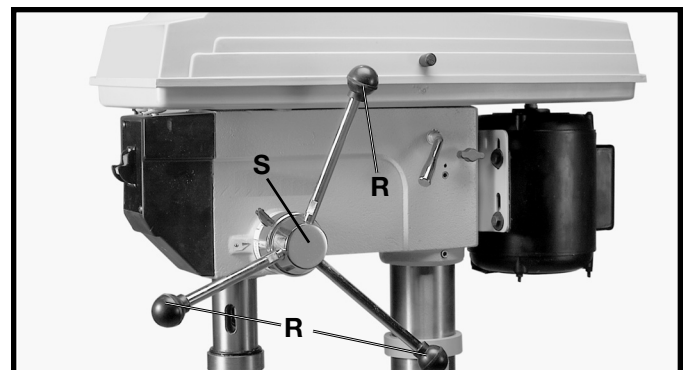

Fig. 16
17. Thread the three pinion shaft handles (R) into the three holes located in the pinion shaft hub (S), as shown in Fig. 16.